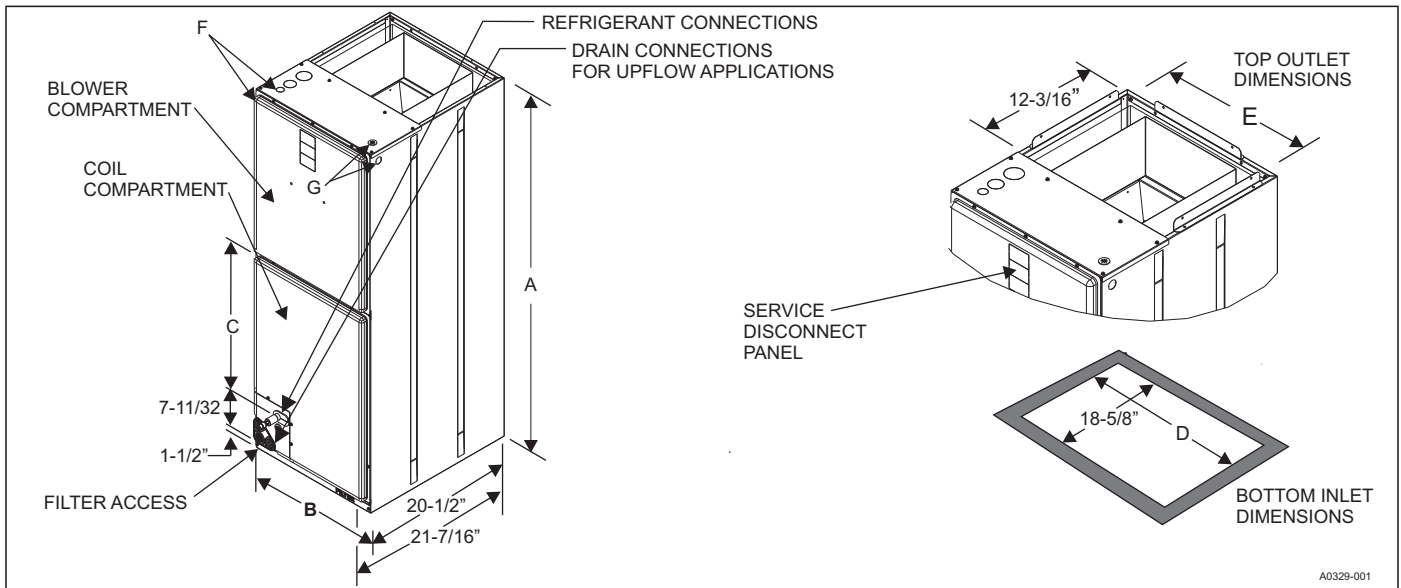

FIGURE 3: Dimensions & Duct Connection Dimensions
6. The unit rating plate displays the air handler model number. The unit dimensions for the supply air plenum are provided in Figure 3 and Table 1 of this Instruction Manual. The plenum must be installed according to the instructions.
- The size of the unit should be based on an acceptable heat loss or gain calculation for the structure. The ACCA – Manual J or other approved methods may be used. Reference Figure 3 and Table 1.